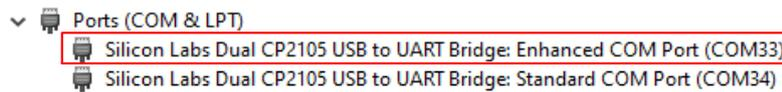

Figure 4: USB Ports
Step 4: Select the correct “COM Port” (USB Port shown in Figure 4: USB Ports) and correct “Baudrate”.